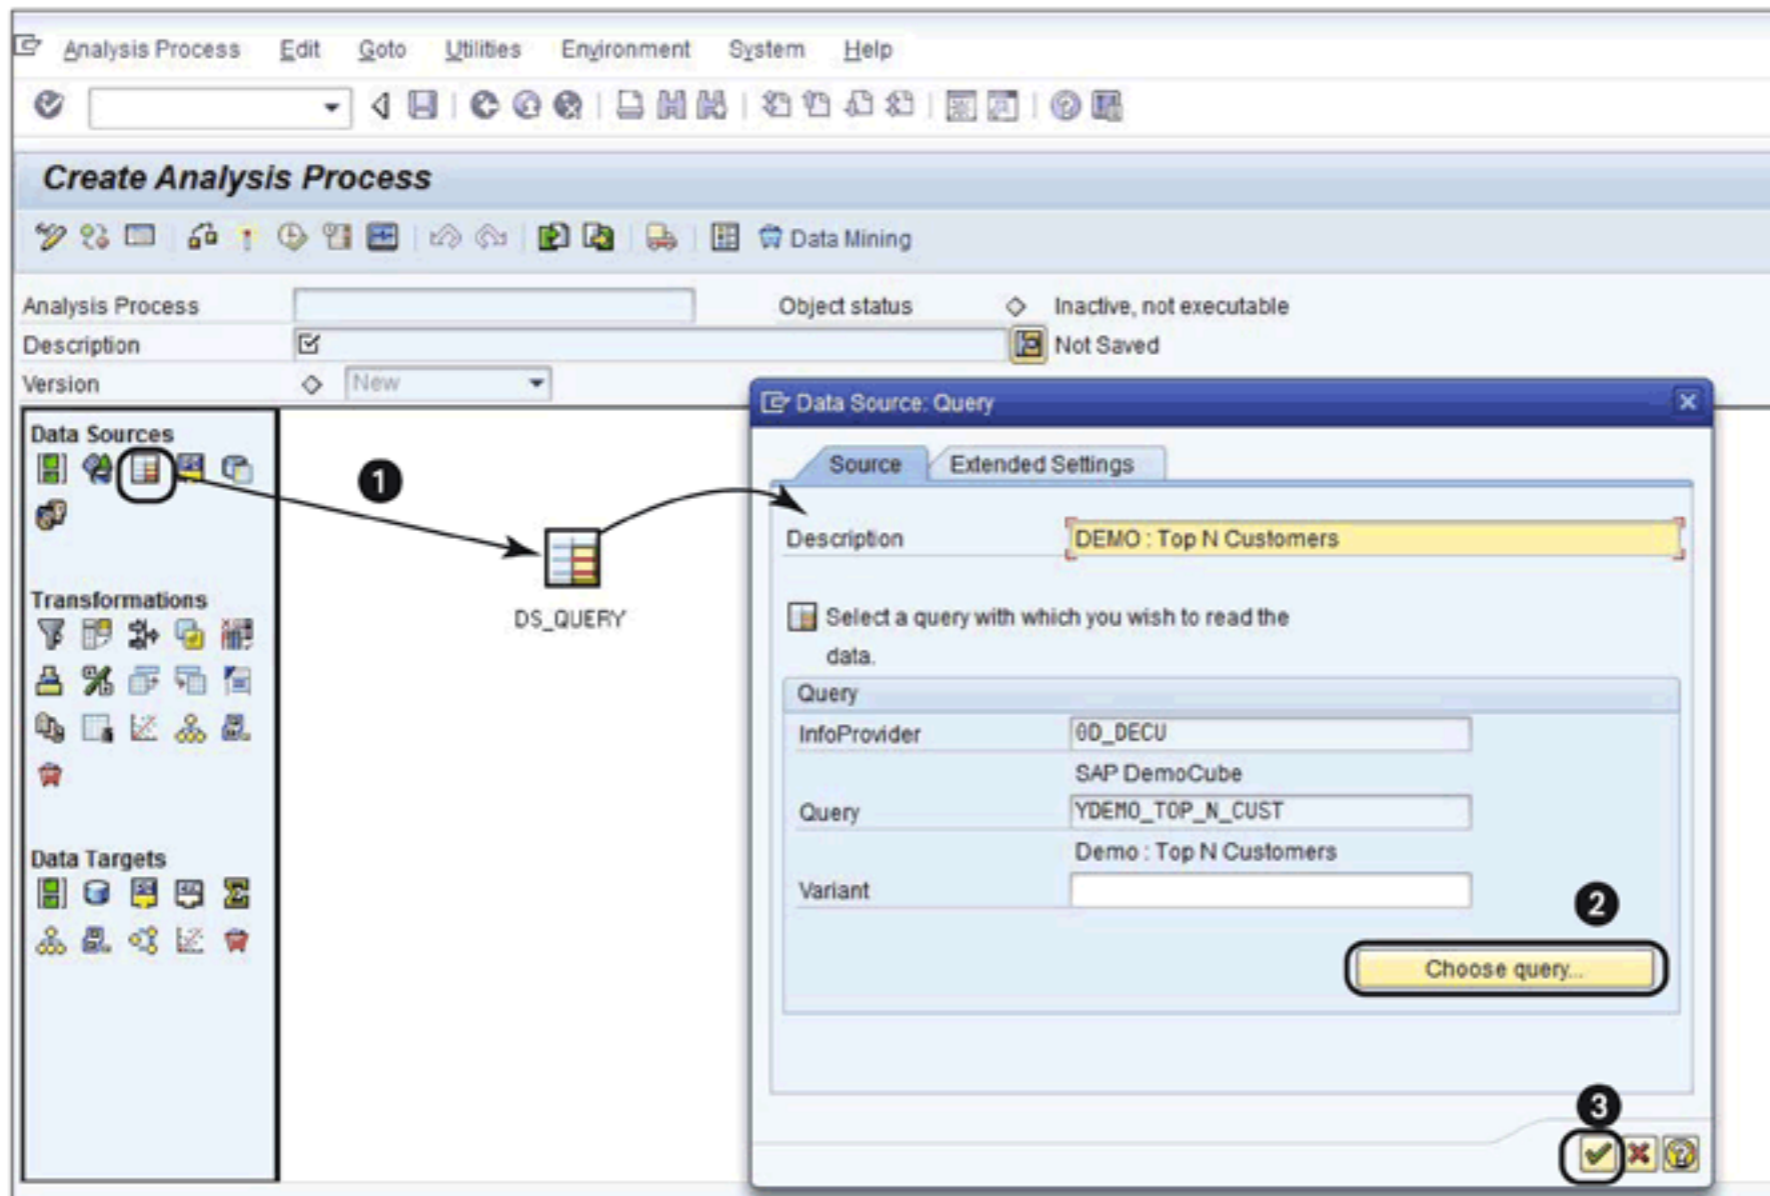

Figure 15.7 Add Data Source: Query
Drag the QUERY icon from the DATA SOURCES area to the design area (❶ of Figure 15.7), and assign a query to this data source using the CHOOSE QUERY button in the pop-up box (❷). Press , or click on the icon shown in ❸ of Figure 15.7 to return to the design screen.